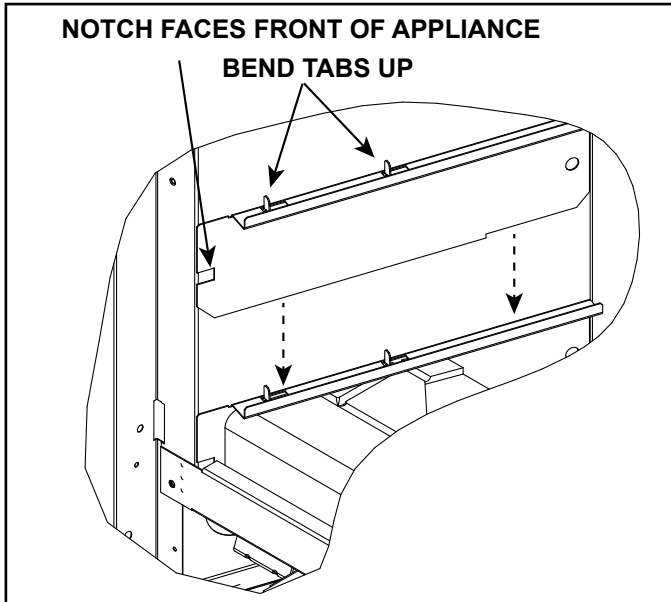
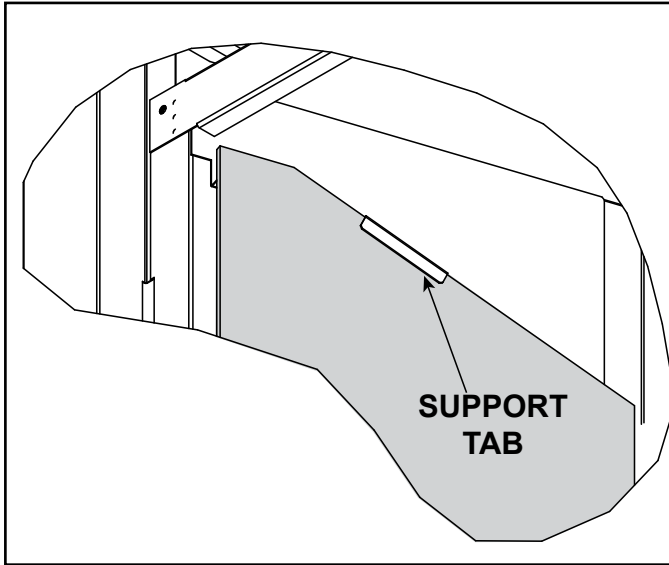

Figure 11.7 Install Lower Glass Bracket (Left Side Shown)
Figure 11.15 Install Left Glass Panel
1. Remove lower glass brackets from the top refractory packaging. Break brackets apart and bend "up" hand bend features. See Figure 11.7.
Install left and right lower glass brackets by installing them between the outer edges of the left and right hearth pieces with the notch facing the front of the appliance. These pieces will fit tightly between the hearth sides and the firebox. See Figure 11.7.
7. Install left glass panel by inserting the glass panel from the front. Slide panel into the bottom glass bracket between the bent up tab and return bend as shown in Figure 11.7. This will create a gap between the glass and the firebox. Slide the panel back until it contacts the rear glass panel. Ensure that the support tab shown in Figure 11.15 is bent "down" on each upper glass bracket to secure left/right glass panels. Repeat Step 7 for right glass panel installation.